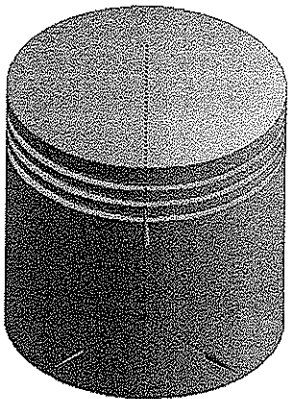

Figure 4-41 The revolved feature created
8. Choose the **Generate** tool from the **Features** toolbar; the revolved feature is created, as shown in Figure 4-41.